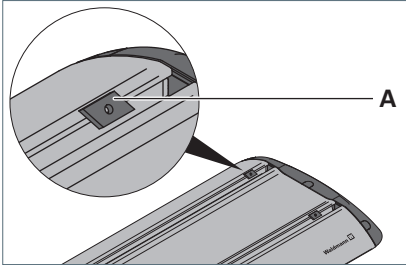

Fig. 11: Inserting the slide nuts.
- Insert the two enclosed slide nuts **A** into the T-slots of the luminaire, see Fig. 11.